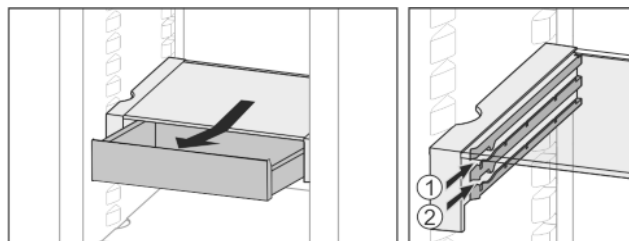

Fig. 21
- ▶ Slide in at any height Fig. 21 (1) or Fig. 21 (2).